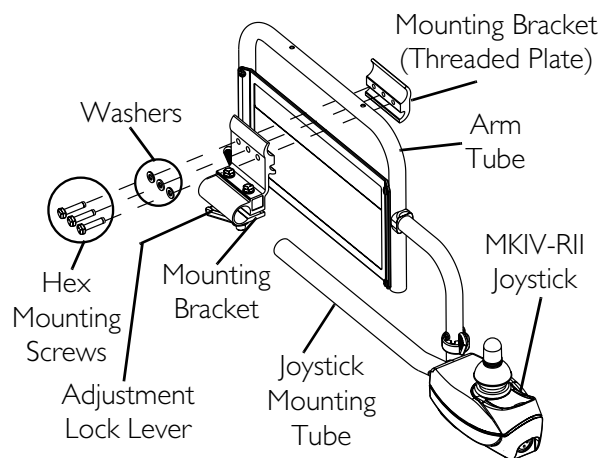

FIGURE 13.2 Repositioning MKIV Joystick
NOTE: For this procedure, refer to FIGURE 13.2.
4. Reposition mounting bracket on opposite arm tube ensuring the threaded plate of the mounting bracket is on the inside of the arm tube as shown in FIGURE 13.2.